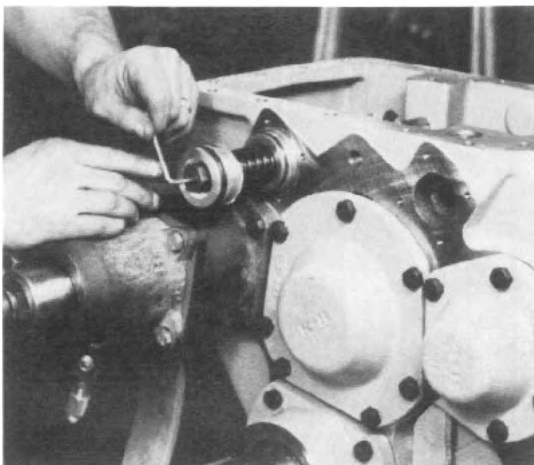

Fig. 34
2. Place a small (piston-to-shift-shaft sealing) o-ring (Item 11) over the threaded end of each shift shaft. The shallow counterbore in the piston (Item 9) should be toward the shoulder on the shift shaft; the deep counterbore provides room for the retaining nut. Install the piston retaining washers (Item 7) in the deep counterbore of the piston over the end of the shift shaft. Install piston retaining nut (Item 6 or 39). The nut used on the two groove shift shaft will be a special oversized nut (Item 39) if the transfer case is equipped with a PTO unit. Tighten nut to specification and tighten the nut locking set screw (Item 40) into the end of the special nut (Item 39 — if case has a PTO unit). See Fig. 34.